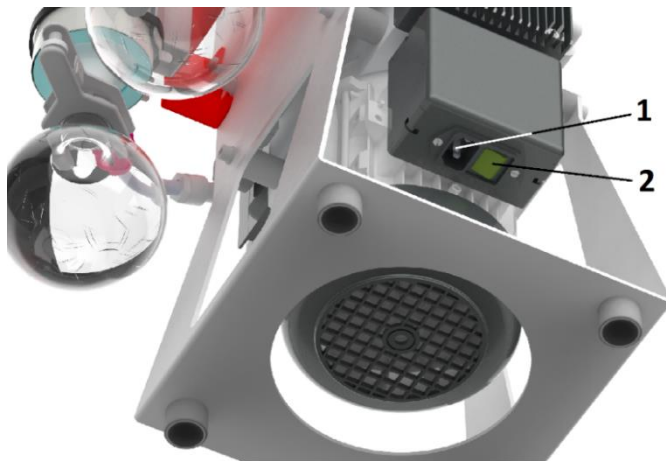

Fig. 5-2. Main switch and mains connection (rear view)
4. Turn on the device at the main switch (Fig. 5-2/2).